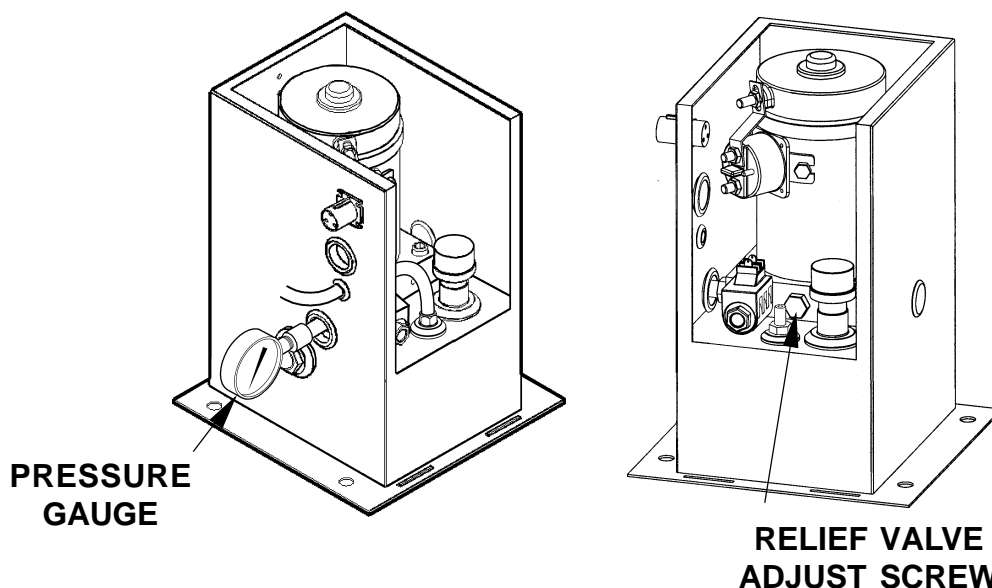

FIG. 2
4. With Platform on the ground, remove the pressure hose and fitting from the Pump and replace it with a 0-3000 PSI Pressure Gauge. Hold the switch in the "UP" position. Adjust the Relief Valve on the side of the Pump until the gauge shows 2800 to 3000 PSI. (**See FIG. 2.**)